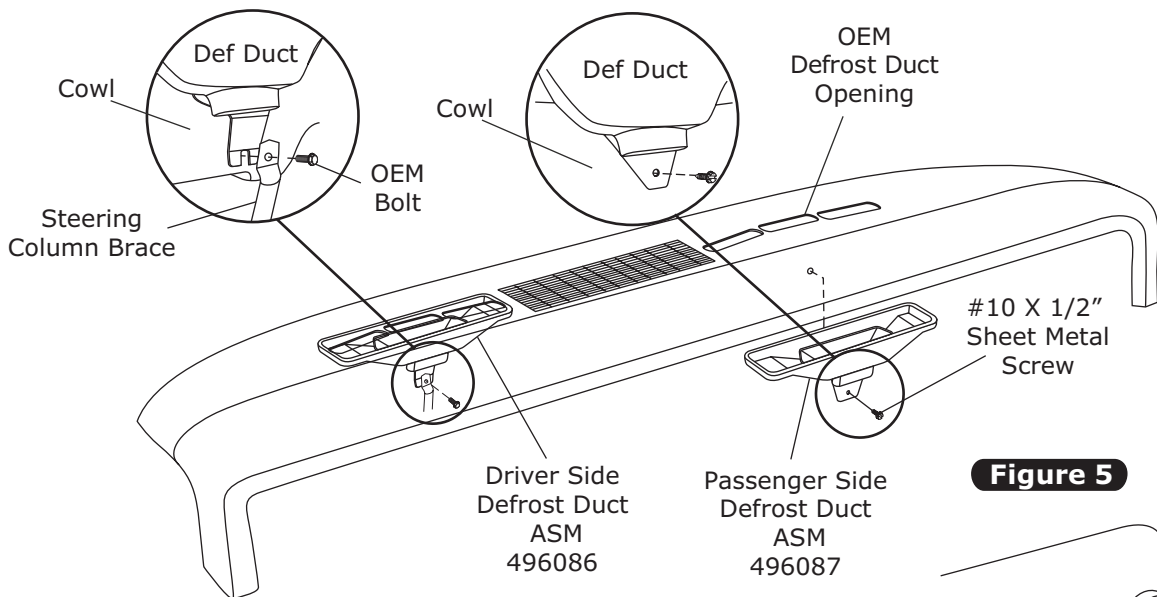

Figure 5
1. Install defrost ducts under dash and align with OEM opening. Install the passenger side defrost duct to the cowl using #10 X 1/2" sheet metal screws. See Figure 5, below. **Note: Driver side defrost duct installs behind steering column brace and secures using steering column OEM bolt as shown below.**